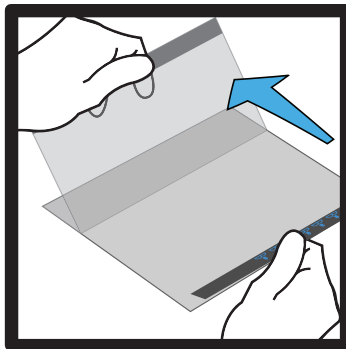
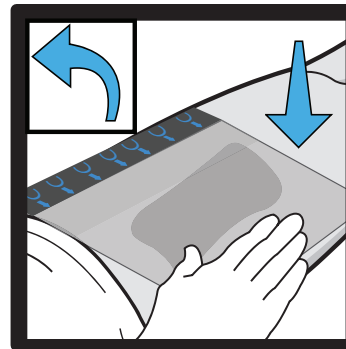

Figure 5
Figure 6
9. Remove the drape's release liner starting with tab A (**Figure 5**). Invert and place over the Cardinal Health™ NPWT foam dressing and peri-wound (**Figure 6**) and continue removing the contact layer with tabs B and C (**Figures 7-8**). Remove the remaining perforated tab (**Figure 9**). Gently press drape material down around the wound site and over the Cardinal Health™ NPWT foam dressing to ensure dressing is properly sealed.